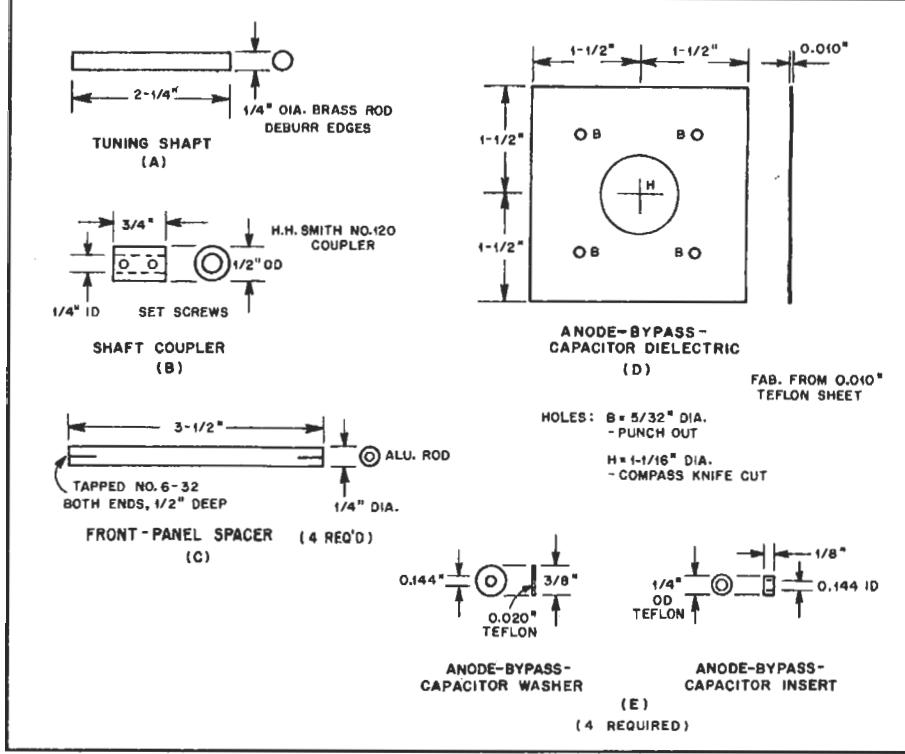

Fig 12—Miscellaneous parts necessary to complete the amplifier.
Fig. 12 shows the remaining parts. The tuning shaft (A) is made from a piece of $\frac{1}{4}$ -inch brass rod. A coupler (B) to connect the tuning shaft to the anode tuner may be purchased or made. This also applies to the front-panel spacers (C). The Teflon dielectric for the anode bypass capacitor (D) is made from 0.010-inch-thick Teflon sheet. Use the template to locate holes B and H. Teflon washers and inserts (F) are used to insulate the mounting hardware for the anode bypass capacitor from the chassis. The inserts are made from $\frac{1}{4}$ -inch-OD Teflon rod. The washers are made from Teflon sheet. Sharpen a piece of $\frac{3}{8}$ -inch aluminum tubing and chuck it up in a drill press. This tool will cut neat, round washers from the sheet.